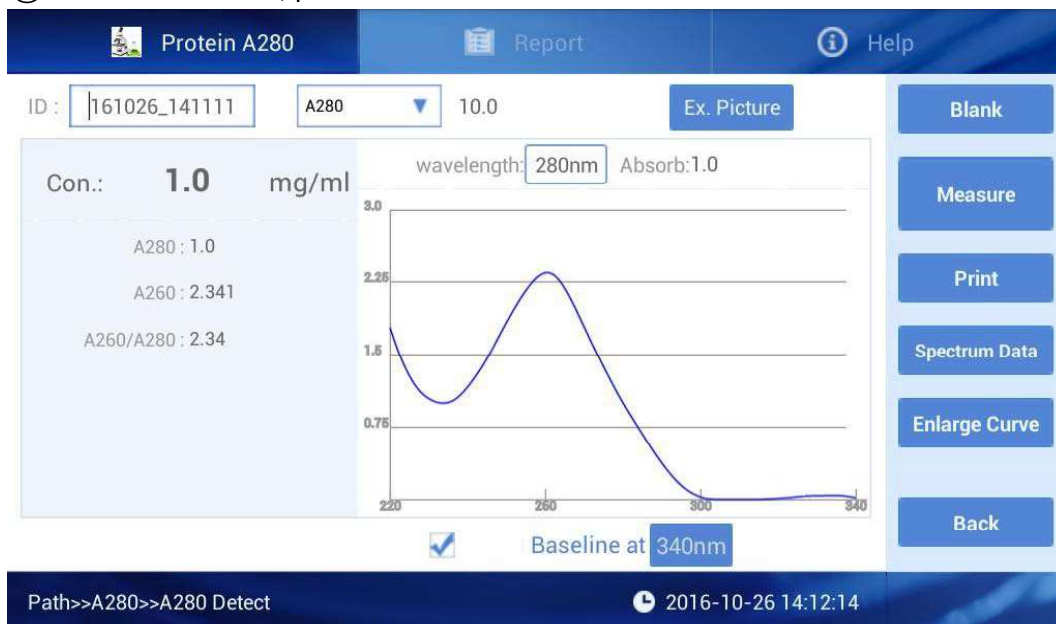

Fig 4.10 Result of Protein measurement
① Set the batch NO. and Nucleic Acidstype;
- ② Clean the upper and lower pedestals with dust proof paper, input the 2ul buffer solution to make blank;
- ③ Clean the buffer solution on the ower pedestals with dust proof paper;
- ④ Measure sample with volume of 2ul. Click “Measure” and then enter the interface as Fig 4.10;
- ⑤ After measurement, pedestals must be cleaned before next measurement.
Notes: Measure the sample as soon as you load the sample on the pedestal, if users need save the curve graph, click “save”, so that user can check the curve in report as Fig 4.10.